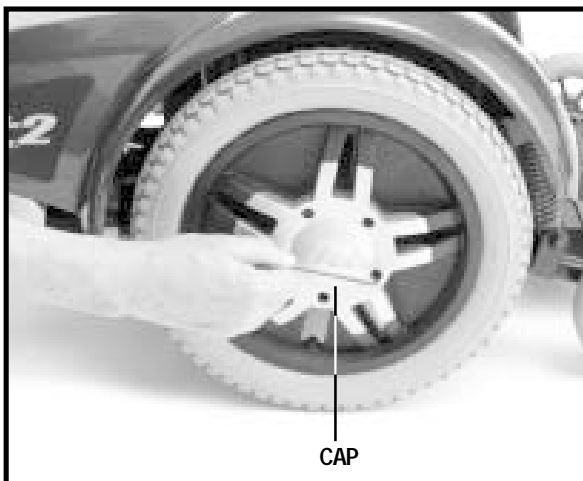

Figure 25. Drive Wheel Hub Cap Removal
3. Remove the hub cap. See figure 25.